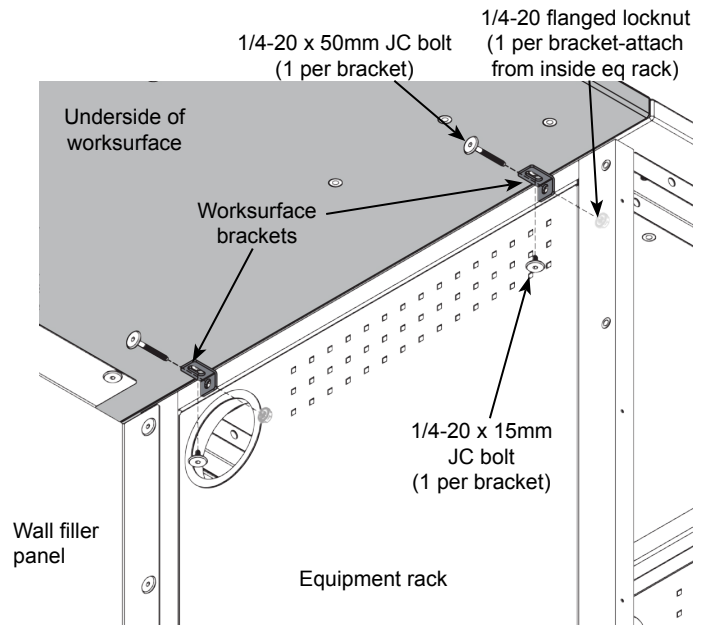

**Figure 7B**
1. Set the worksurface onto the equipment rack and any adjacent assembled wall filler panels (if applicable). **Figure 7B.**
3. Attach worksurface with (4) 1/4-20 x 15mm JC bolts.